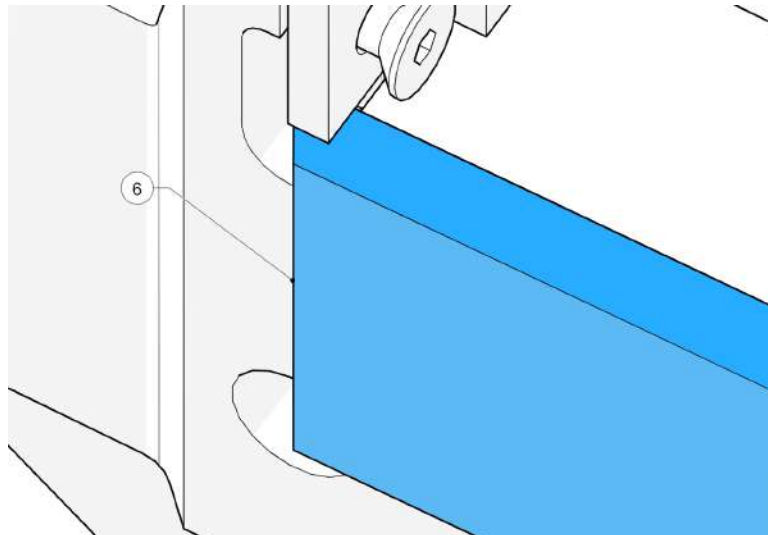

Figure 66 - Anvil in vertical seat
16. Push the anvil into the seat under the side anvil (6, Figure 66).